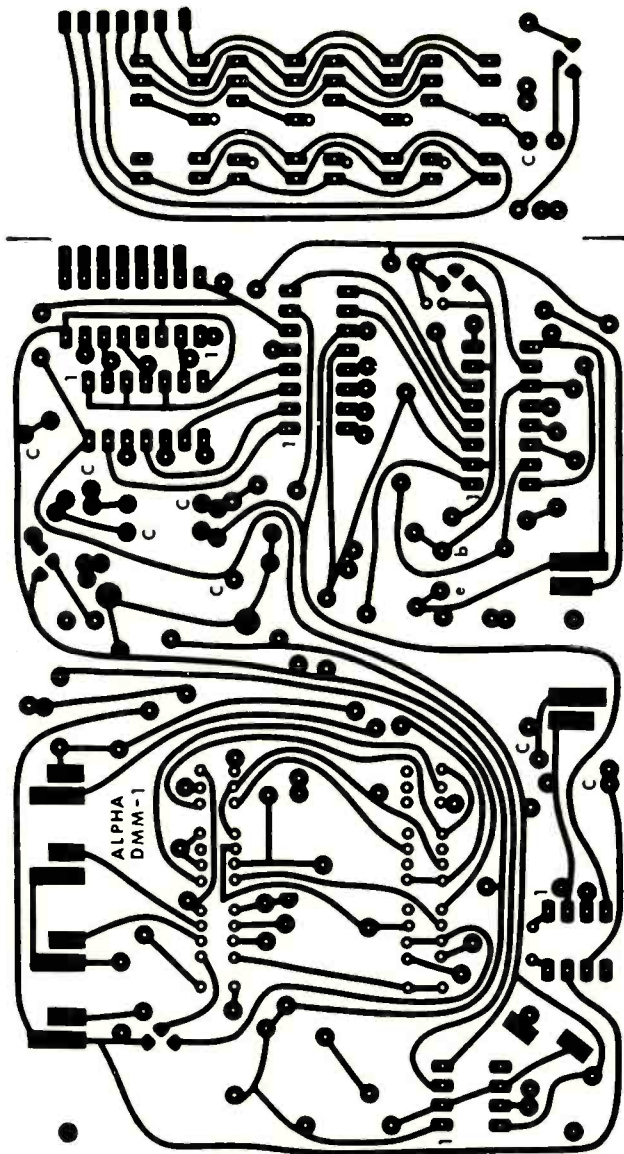

Fig. 2. Actual-size foil patterns for display (top) and main (below) boards.
**Construction.** Because of the complexity of the circuit and the packaging density required of a pocket-sized multimeter, the use of a printed circuit board is mandatory (see Fig. 2).